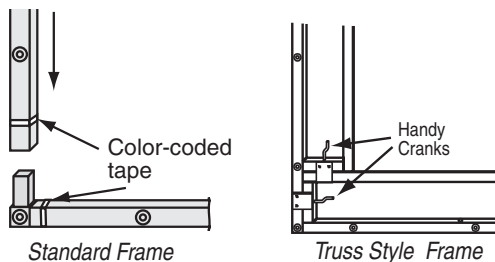

Figure 1
- ① Lay out frame pieces on floor, by matching up color-coded tape near corners. Snaps should be facing up.
- ② Assemble frame (see Fig. 1). If necessary gently tap frame ends with a rubber mallet to make sure castings are fully seated.
- ① Unfold and lay out pieces on floor, by matching up color coded marks. Lock all hinges (see Fig. 1). Snaps should be facing up.
- ② To increase frame rigidity, hinges on top and bottom sections have rivnuts marked with red and green. Insert a Handy Crank through the threadless rivnut (red) and tighten into the threaded rivnut (green).
- ③ Apply small sections marked "Stiffener Bars" to back of bottom frame section, using 8 Handy Cranks. These eliminate sag on large suspended frames. Failure to use all Handy Cranks may result in screen frame damage. Turn bottom frame section over so snaps face up.
- ④ Repeat step 3 for top frame section.
- ⑤ Join top and bottom sections to Stage Left and Stage Right, using 2 Handy Cranks on each of the 4 corners. Match numbers on white labels.
- ⑥ Attach surface (see "Surface Installation"), and suspend using appropriate materials (provided by others to meet specific installation requirements).